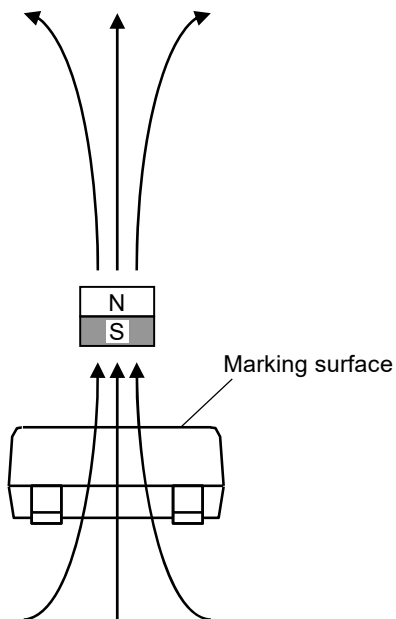
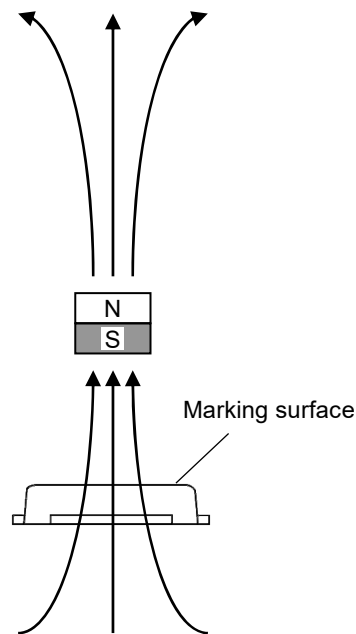

Figure 12
Figure 13
**Figure 12** and **Figure 13** show polarity in a magnetic field and direction in which magnetic flux is being applied.